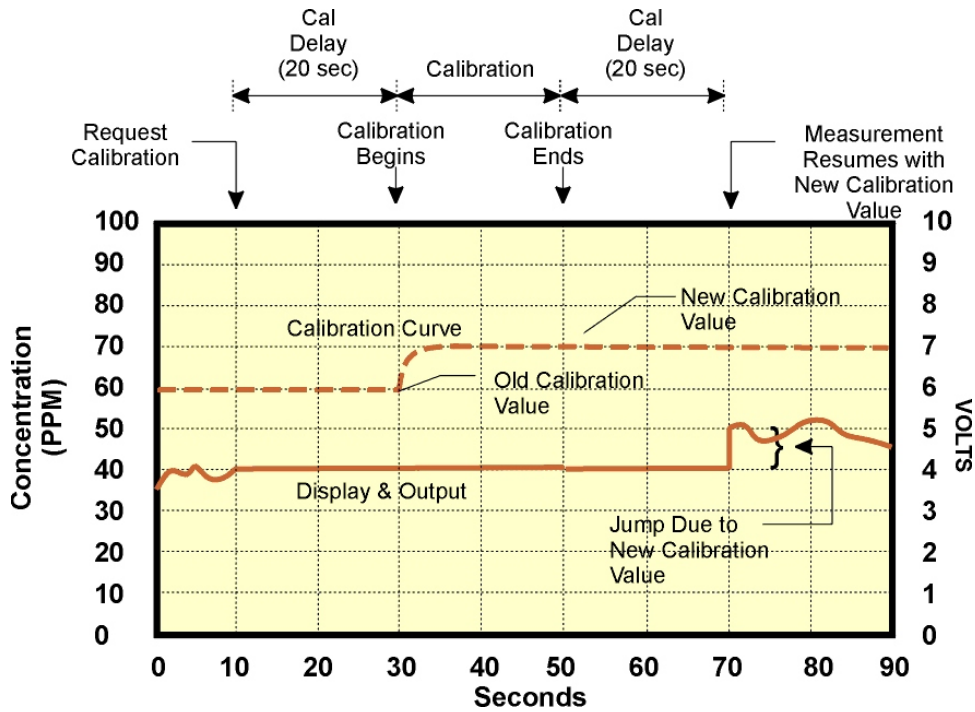

Figure 4-3: Output Jump After New Calibration, CAL=HOLD
**NOTE:** *If the instrument is set to CAL = HOLD, there will be no change in display or output of the calibration value, it will hold on the last measured value before the calibration command was given. At the end of the calibration event, there will be another delay in output equal to the CAL DELAY period while the gas concentration in the sample cell changes from pure calibration gas to actual sample gas. If the calibration has changed since the last calibration, there will be a jump in the reading as the new calibration takes effect. See Figure 4-3.*